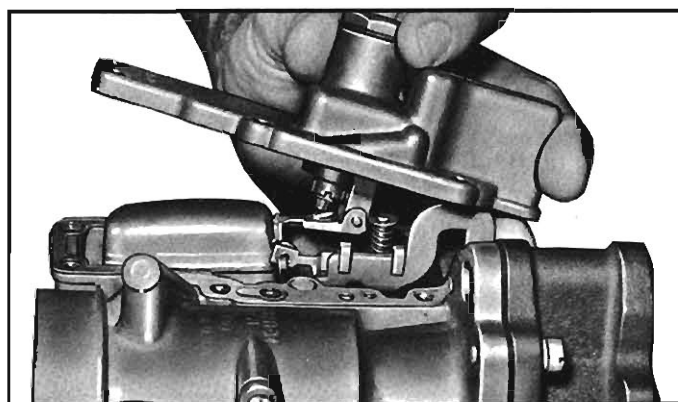

Fig. 27—Removing Bowl Cover
2. Remove six bowl cover screws and remove bowl cover (fig. 27).